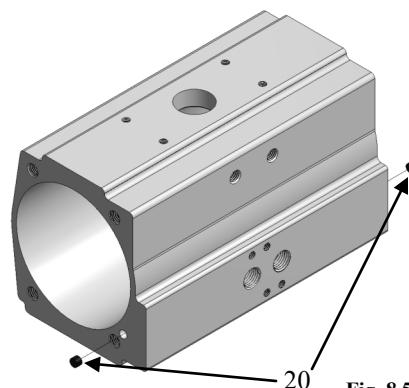

Fig. 8.5
- d. Air Channel Plugs: the small cylinders fit in the ends of the body (2 pieces), (#20 fig. 8.5).